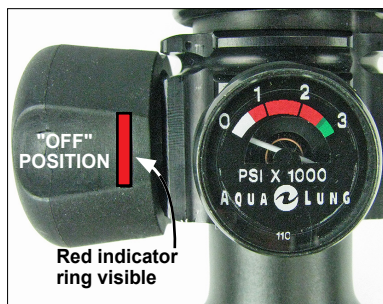

Figure 3
3. Turn the valve handwheel clockwise until it is completely closed. To ensure the valve is closed, check to see if the **red indicator ring** is visible in the handwheel (*Fig. 3*).